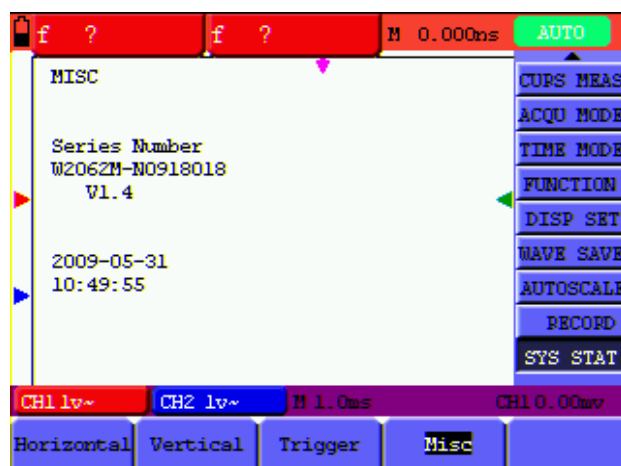

Fig.66
3. Press **F4** key and select **Misc** to display the system time ,see Fig.66.